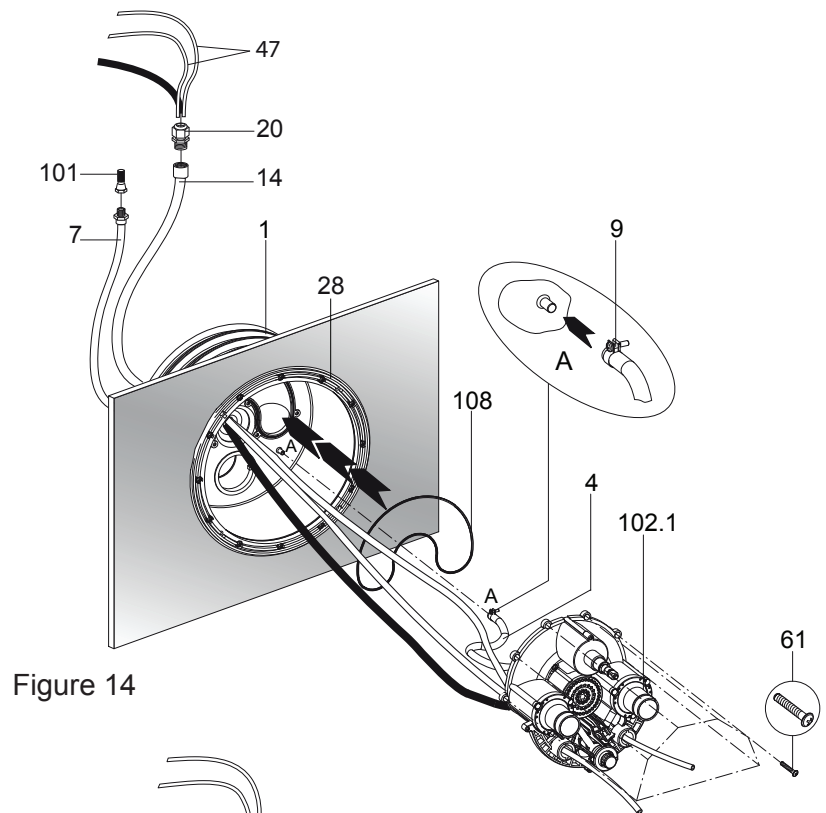

Figure 14
2. Insert the o-ring (part# 62) in the jet housing as shown in Figure 14.
3. Start the ten (10) nozzle housing tapping screws (part# 61) into the pre-assembled nozzle housing (part# 102.1). Place the nozzle housing at the main jet housing.
4. Feed the pneumatic hoses (part# 47) through the protective conduit as shown in Figure 14. Allow enough pneumatic hose to reach the control box and pneumatic buttons. Excess can be trimmed upon installation. Mark each end with a marker. (P = Pump & L = Light.)
7. Align the complete nozzle housing to the main housing and fasten the ten (10) pre-assembled tapping screws. *All screws should be **HAND TIGHT**. **DO NOT** use drills or pneumatic tools. **DO NOT** over tighten!*